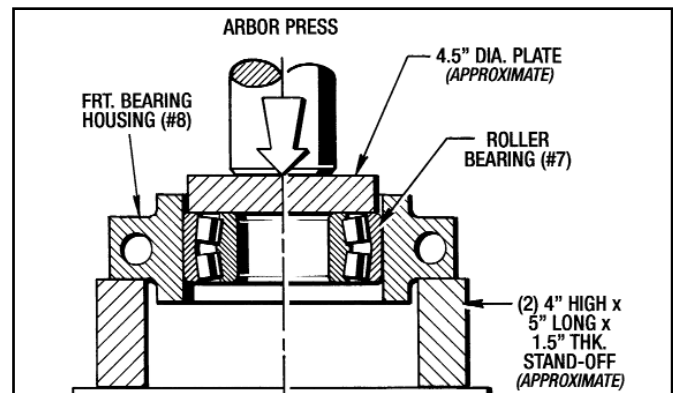
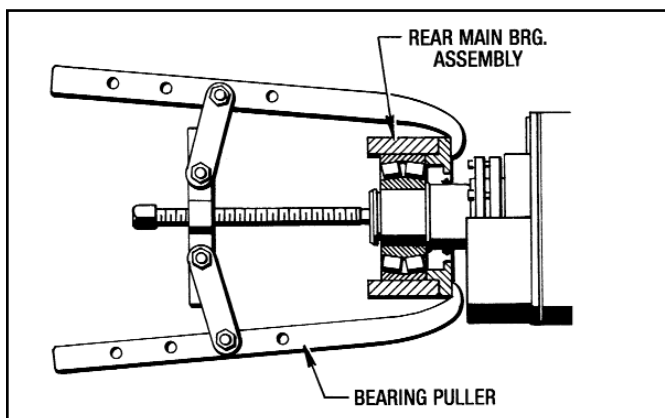

Figure 6.2 - Removing Roller Bearing (#7)
Figure 6.3 - Removing Rear Main Bearing
- Press the Roller Bearing (#7) out of the Bearing Housing (#8) with an Arbor Press as shown in *Figure 6.2*.
- Take the (4) Screws (#3) and (4) Lockwashers (#4) out and remove the End Bearing Closure (#6) from the Bearing Housing (#8).
- Attach a standard Bearing Puller and pull the whole Rear Bearing off the Vibrator Shaft (#1) as shown in *Figure 6.3*.
- Press the Roller Bearing out of the Rear Bearing Housing (#8) with the same procedure as shown in *Figure 6.2*.